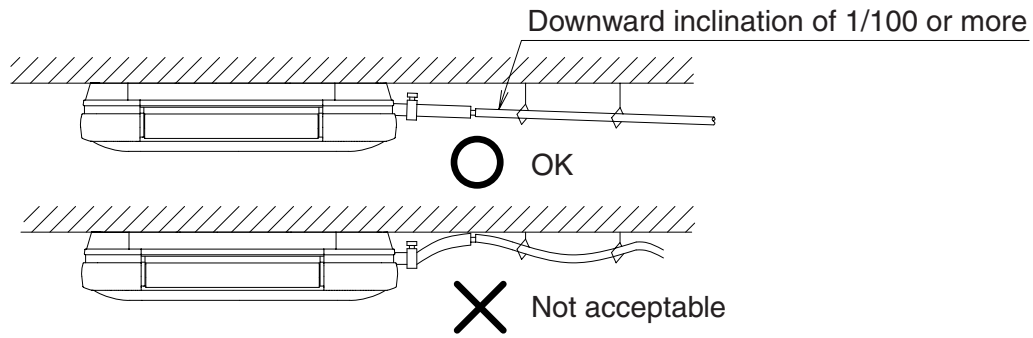

Fig. 28
- Install the drain piping as short as possible with downward inclination of 1/100 or more and without where air may stagnate. **(Refer to Fig. 28)**